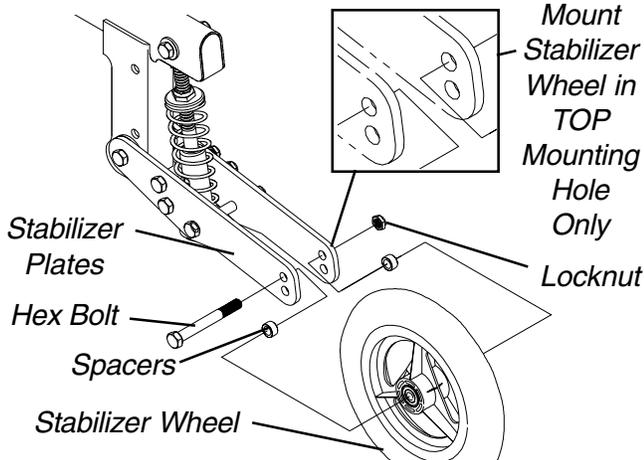

FIGURE 18 - REPLACING STABILIZER WHEEL FOR TYPE A AND TYPE B STABILIZER ASSEMBLIES
11. Rotate the hex nut adjuster in one (1) of the following directions:
**Replacing Stabilizer Wheel for Type A and Type B Stabilizer Assemblies (FIGURE 18)**